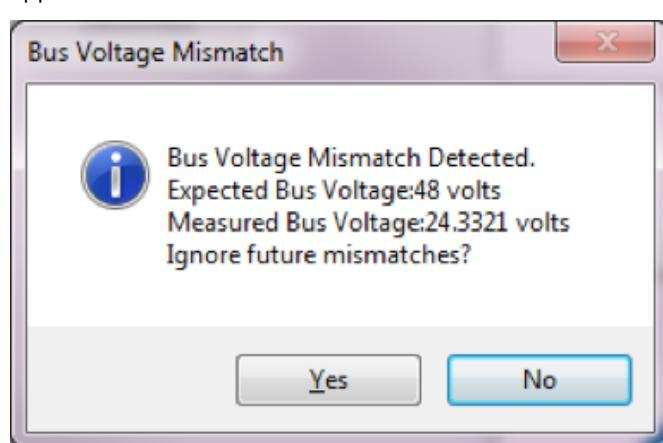

Figure 5-3: Software Stop
4. The TMI software opens a Software Stop window shown in Figure 5-3. This Software Stop window is intended to be a software motion stop. If the user clicks on the stop button, the actuator will immediately stop. The Tolomatic ACS Drive will be disabled along with the output to the motor. For safety reasons this window is intended to always be on top of other windows.